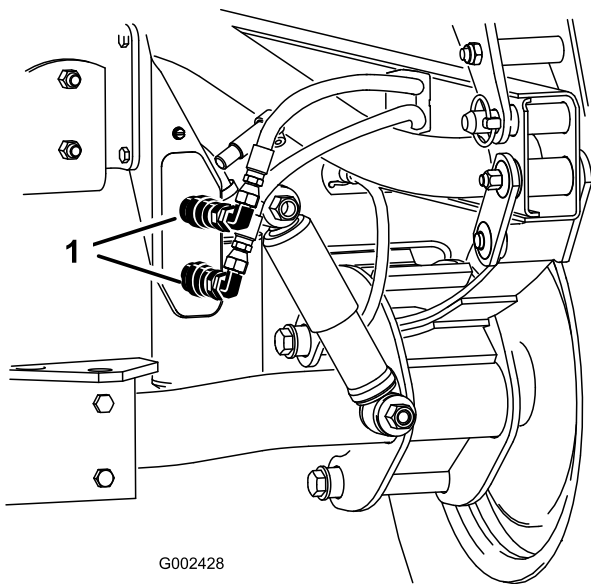

Figure 79
- On both vehicles, disconnect the two quick coupler hoses from the hoses secured to the coupler bracket (Figure 79).